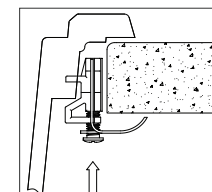

Figure 5
9. Position the bottom of the mounting clip so that it is gripping the countertop. Use a screwdriver to tighten the screw until the mounting clip is snug against the countertop (Figure 5).